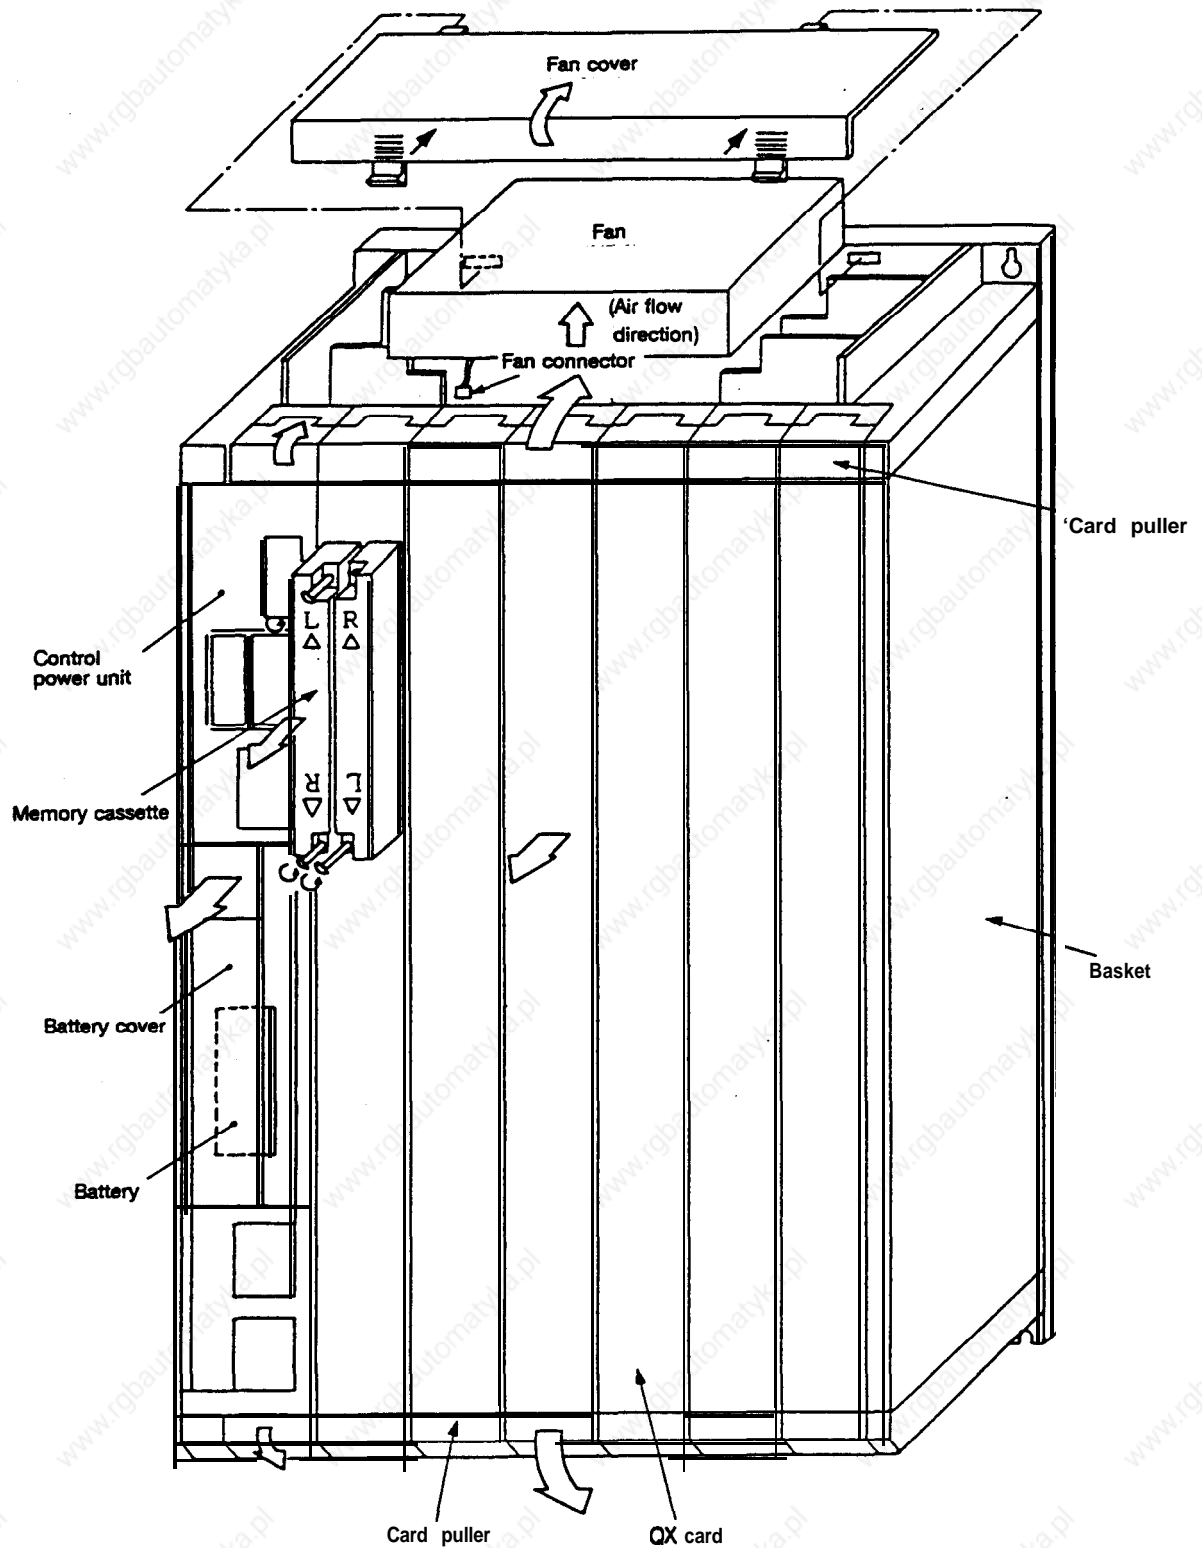

Fig. 3.6 Control unit replacement procedure drawing
The procedure for replacing the control unit is shown in Fig. 3.6.
② When the upper and lower card pullers are opened into the direction of the arrow shown in Fig. 3.6, the QX card will protrude slightly, and can be pulled out.
③ When mounting a new QX card, slide the card into the back along the guide groove on the basket. The card name is indicated on the basket, so make sure that the card is inserted into the correct slot.
④ Close the card lock.
- ① Loosen the two screws fixing the memory Cassettes, and remove the card from the memory card unit.
- ② Release the claws from cassette case A while pressing down on the notch on the front of cassette case B.
- ③ Remove cassette case B from cassette case A .
- ④ After lifting up the front end of the memory card, pull the connector side end from the cassette case A groove.
- ⑤ When mounting a new memory card, follow steps ④ to ① in reverse.